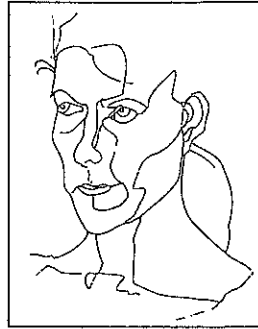

Figure 5-11: Face right side up.
- Step 1.** Next we will look at a line drawing of a woman's face (see Figure 5-11). On a piece of paper the same size as the drawing, try copying the picture (see Figure 5-12). Give yourself about fifteen minutes to complete the drawing. In case you find this tedious, do not worry, that is not surprising. When you are finished, set the drawing aside.